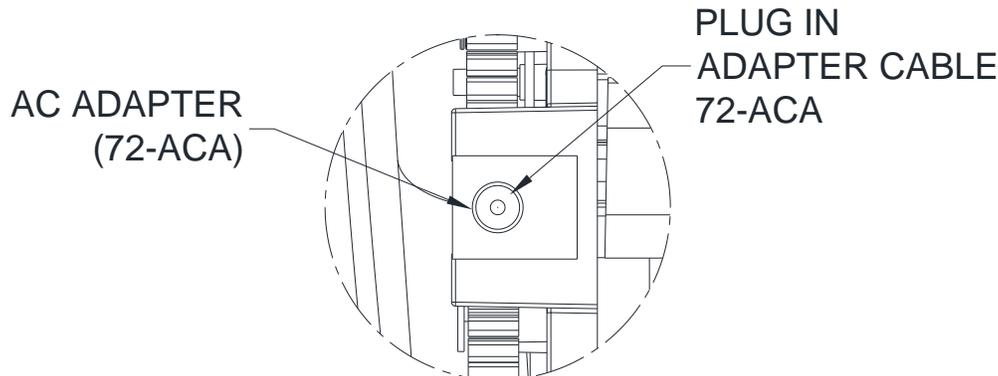

Fig. 5
2. Plug adapter into matching socket located (when viewed from rear) on bottom left hand side of mechanism housing base (Fig. 5).
3. The AC/DC transformer wire jack end is plugged into a socket located in the lower right corner of the towel mechanism unit (when viewed from front). The socket is hidden facing to the back (Fig. 5). Loosen the towel mechanism mounting bolts slightly and tuck the loose wire inside the hollow plastic frame of the mechanism, up the right side, across the top to where the transformer is plugged into the electrical outlet. This will keep it from getting tangled in the towel rolls during operation. Retighten mounting screws and remove all installed batteries before electric power is supplied .